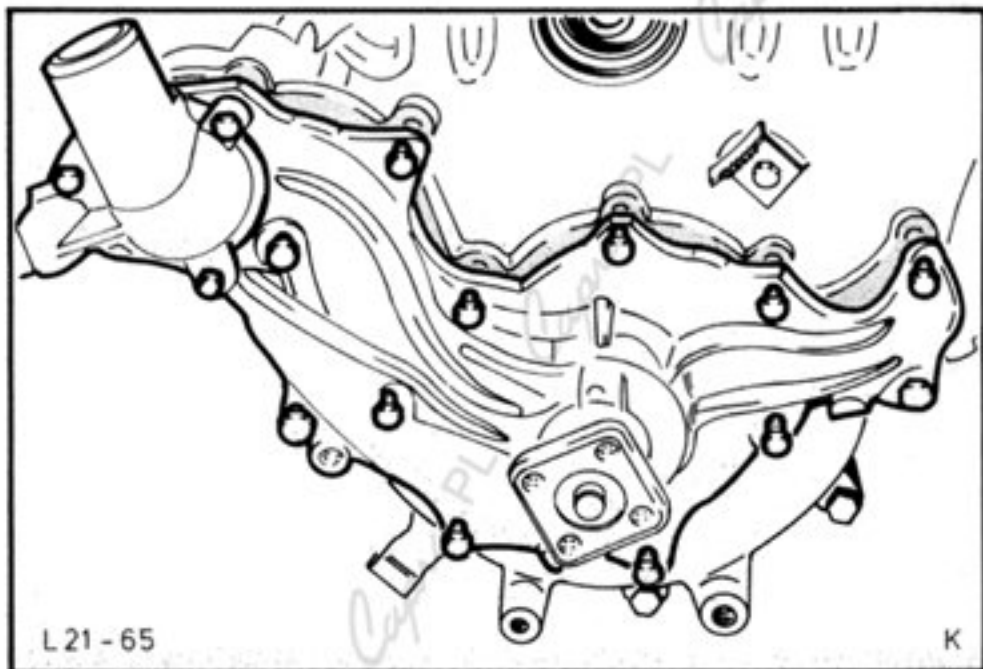

Fig.33. Remove water pump.
18. Remove water pump (13 bolts), Fig.33, unscrew thermostat housing (3 bolts) and remove thermostat. Detach rear water elbow.